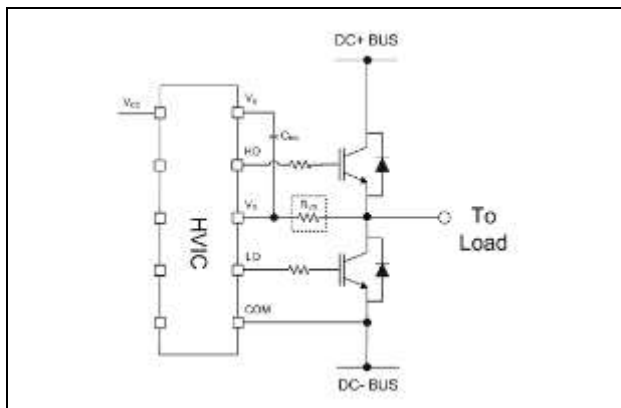

**Figure 18** Avoid antenna loops
**Gate Drive Loops:** Current loops behave like antennas and are able to receive and transmit EM noise (see Figure 18). In order to reduce the EM coupling and improve the power switch turn on/off performance, the gate drive loops must be reduced as much as possible. Moreover, current can be injected inside the gate drive loop via the MOSFET collector-to-gate parasitic capacitance. The parasitic auto-inductance of the gate loop contributes to developing a voltage across the gate-emitter, thus increasing the possibility of a self turn-on effect.